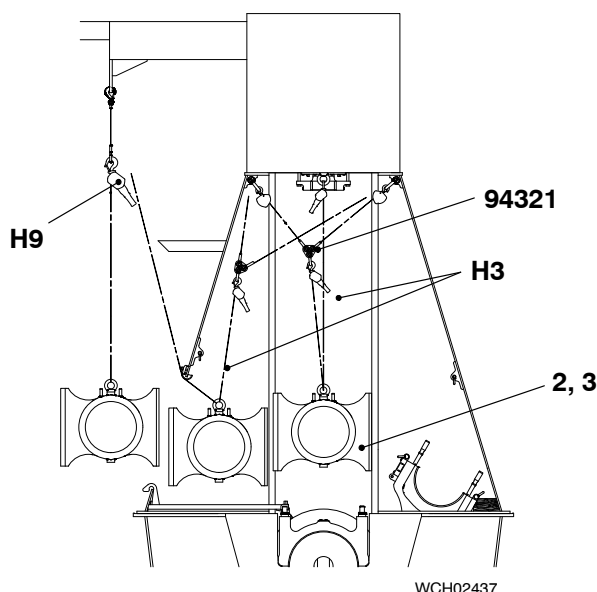

Fig. 5
- 46) Attach the protection tool (94117B, Fig. 5) to the door frame.
- 48) Attach the chain (94019B) to the manual ratchet (H9) and the eye bolt on the crosshead pin (2).
- 49) Turn the crosshead pin (2) 90°.
- 50) Move the crosshead pin (1) through the door frame as follows:
- c) Remove the manual ratchets (H3, H9) from the eye bolt on the crosshead pin (1).
- 3) Attach the two manual ratchets (H3, H9) to the eye bolt on the guide shoe (3, Fig. 5).
- 5) Remove the manual ratchet (H6) from the guide shoe (3).